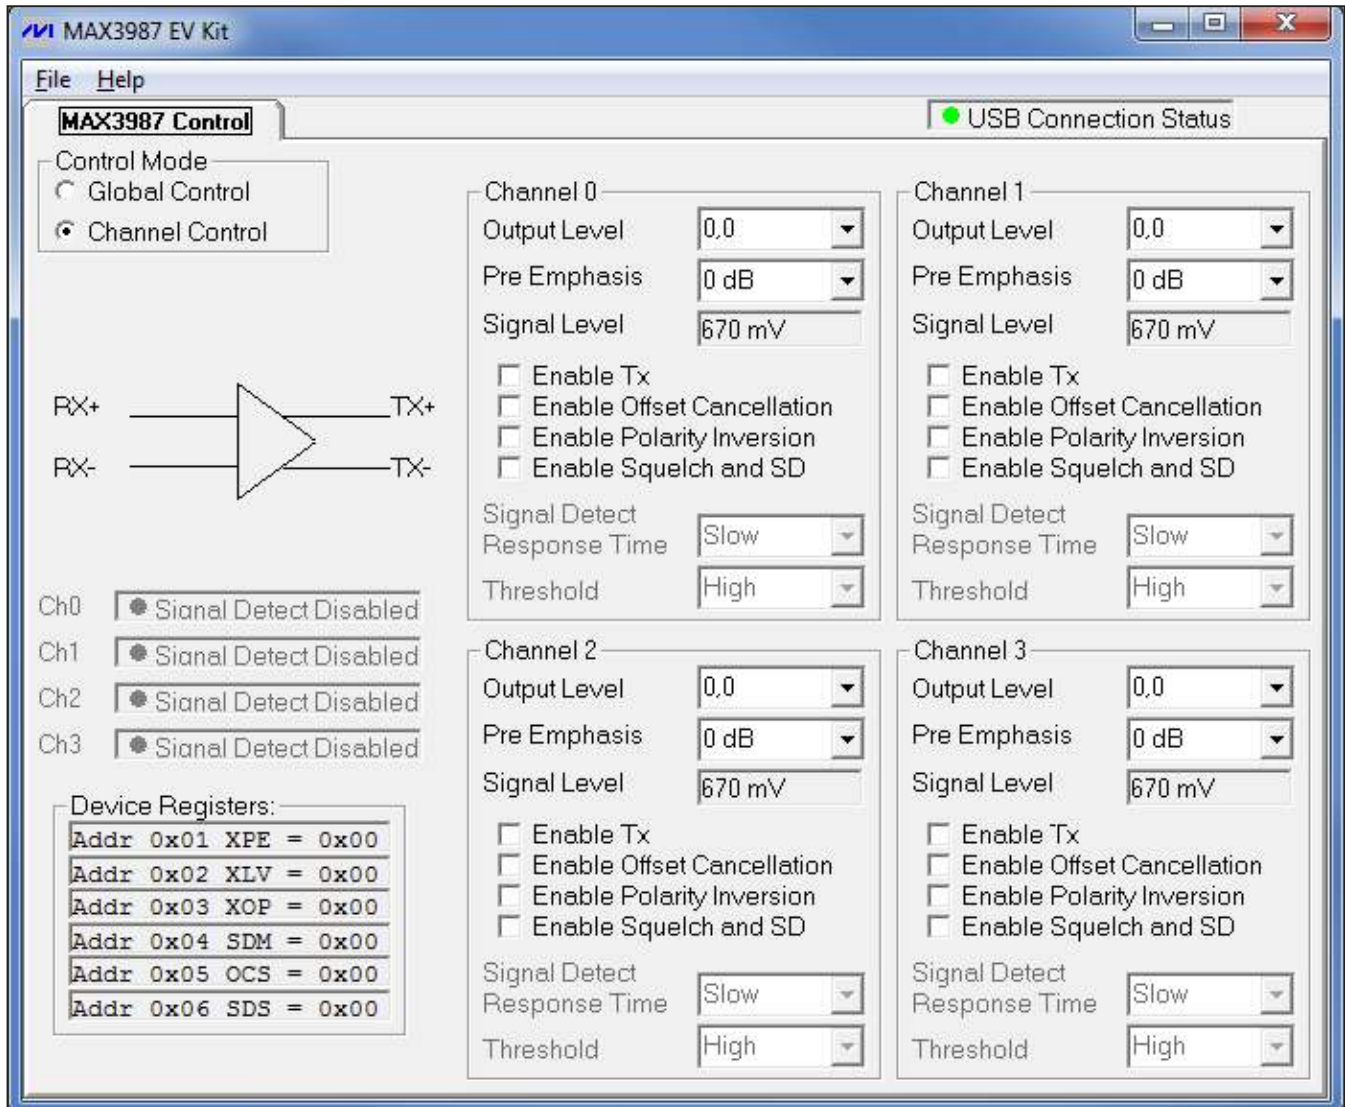
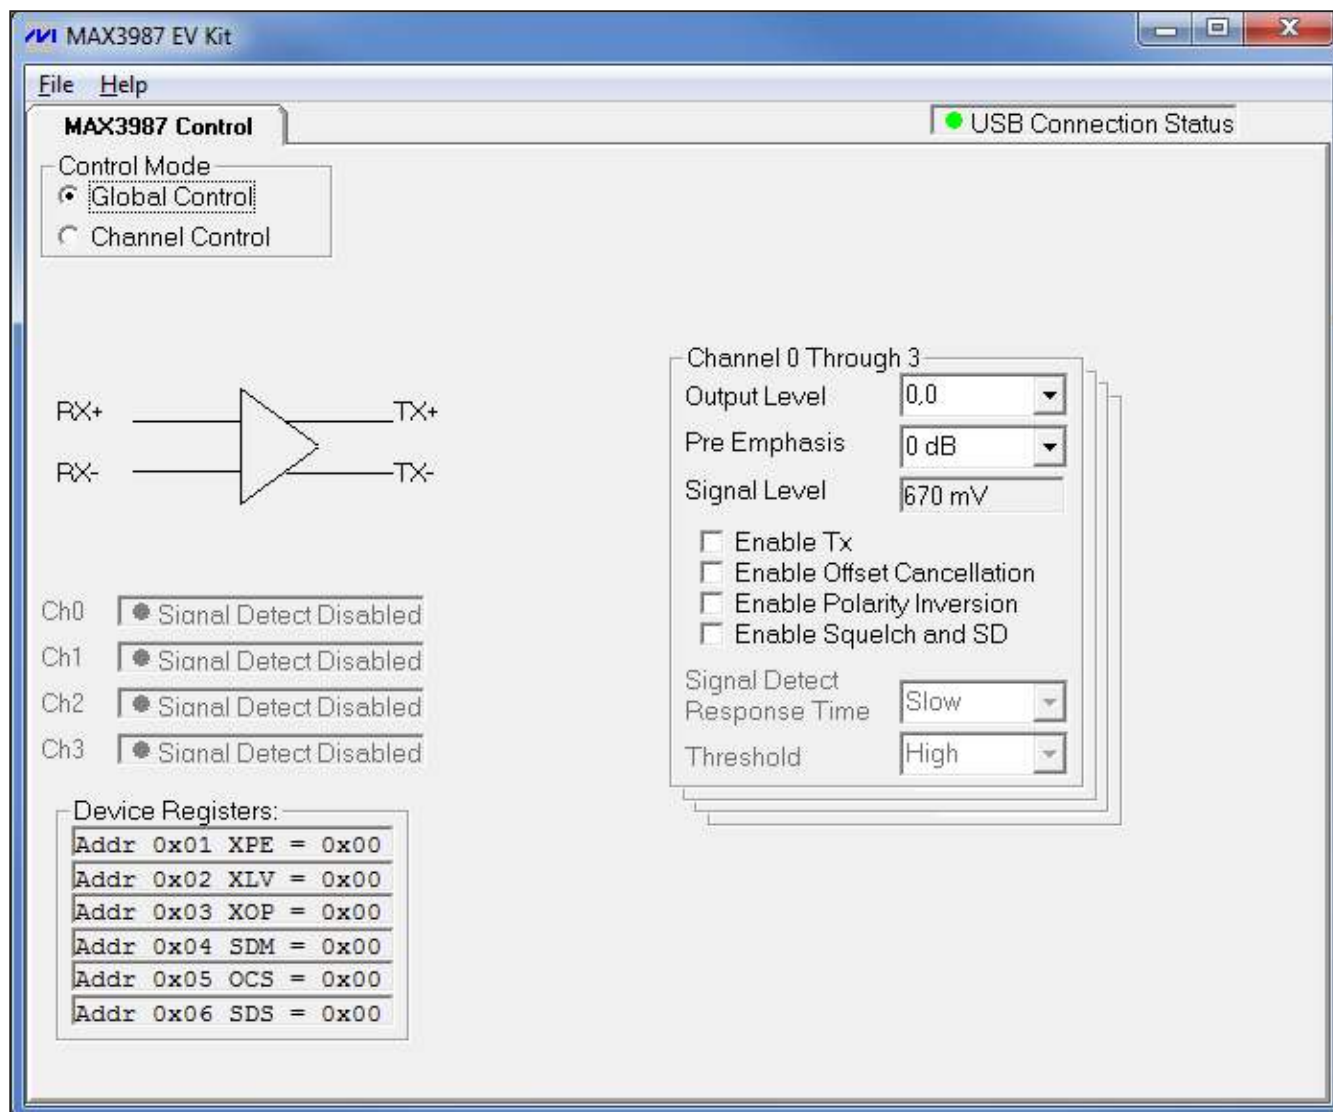

Figure 21. MAX3987 EV Kit Evaluation Software—Individual Channel Control
Figure 22. MAX3987 EV Kit Evaluation Software—Global Channel Control
- 6) The device's 4 channels can be controlled individually (Figure 21) or as a group (Figure 22) using the **Control Mode** selection in the upper left-hand section of the software.